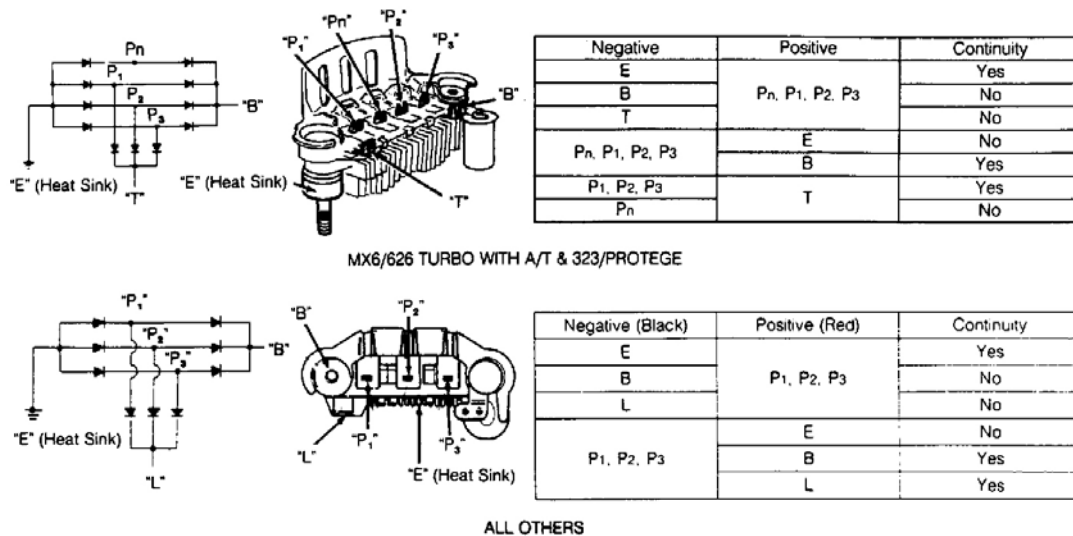
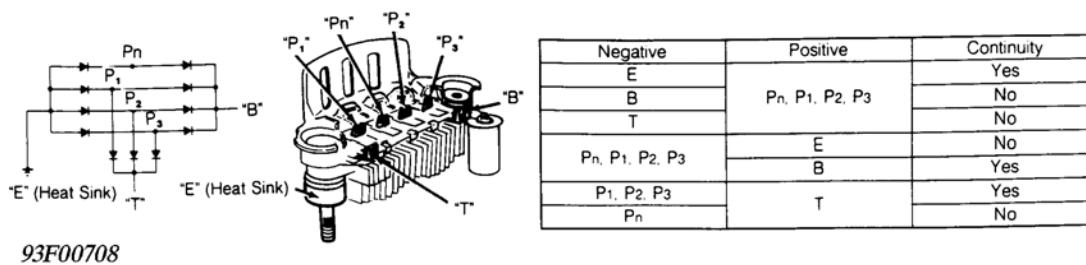

Fig. 5: Testing Alternator Rectifier & Diodes
Fig. 6: Testing Alternator Rectifier & Diodes (1992)
1. Using an ohmmeter, check continuity of each diode in both directions (polarity). See **Fig. 5** and **Fig. 6** . If diode shows high resistance in one direction and low resistance in other direction, diode is okay.